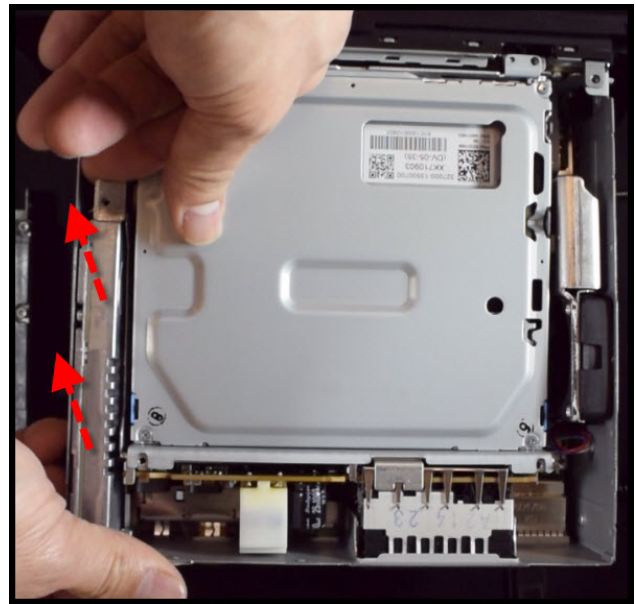

Figure 11. Lift up on both ends of the telephone module as indicated by the red arrows.
- Carefully lift up the telephone module, using both ends as points of contact when pulling up (Figure 11). The module is held in place with a computer socket-type attachment and will release when enough force is used.